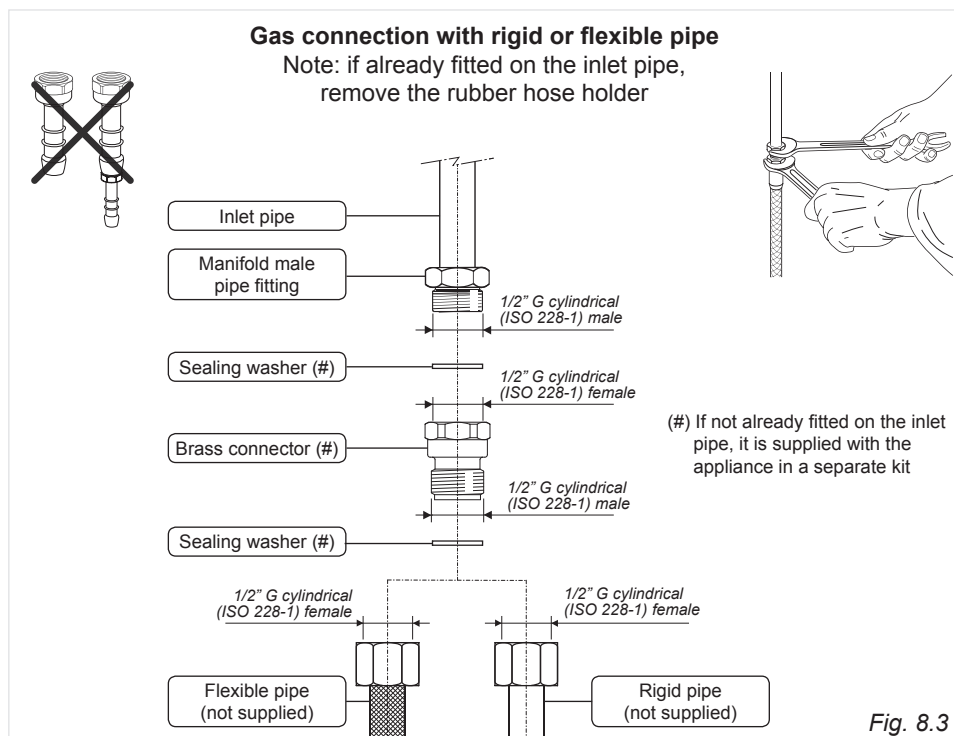

Fig. 8.3
- if compression fittings are used, you tighten them firmly using two spanners (Fig. 8.3).
- use two spanners when connecting the rigid or flexible pipe (Fig. 8.3).